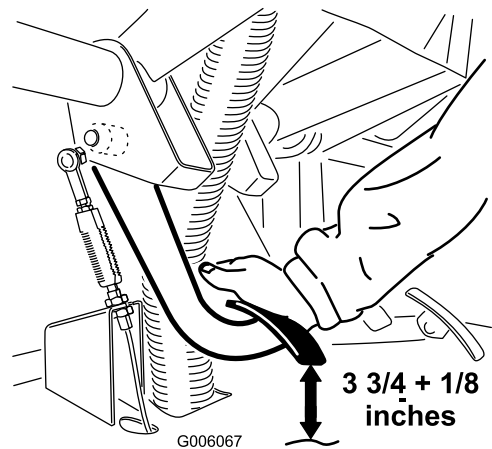

Figure 15
1. Adjust the jam nuts until the back rear edge of the clutch pedal is $3\frac{3}{4}$ inches \pm $\frac{1}{8}$ inch from the top of the floor plate, when an 4 lb. force is applied to the pedal (Figure 15).